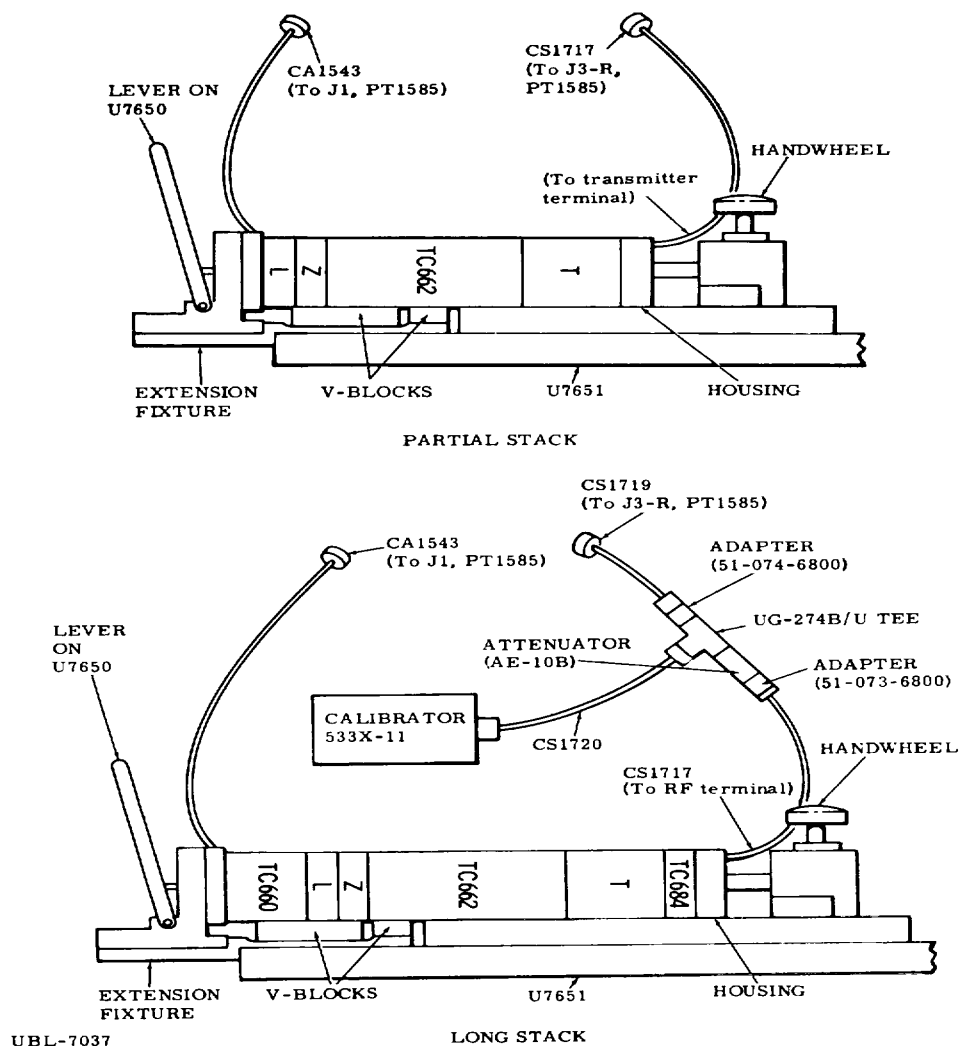

Figure 4-3W. Test Setup for MA136 EDET (G).
- e. Feed right angle connector ends of cables shown in figure 4-3R through housing, connect cables to transmitter and PT1585 (figure 4-3W), and position housing on fixture.
a. Position TC660 and TC684 modules as shown in figure 4-3W for long stack test as necessary to align marks and keys and keyways in modules. Feed CS1717 cable through housing as indicated in figure 43R and connect it to RF terminal of TC684.
d. Insure that calibrator is turned off, and assemble remaining components as shown in figure 4-3W.